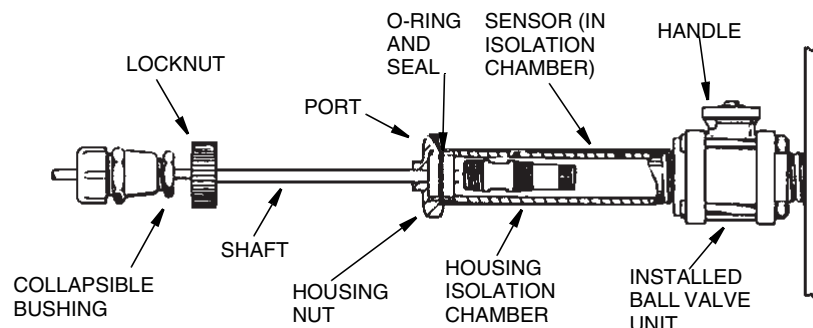

Figure 16. Ball Valve Shaft Installation
3. Gently insert the sensor into the housing isolation chamber until the O-ring and seal are seated into the end of the isolation chamber (see Figure 16).